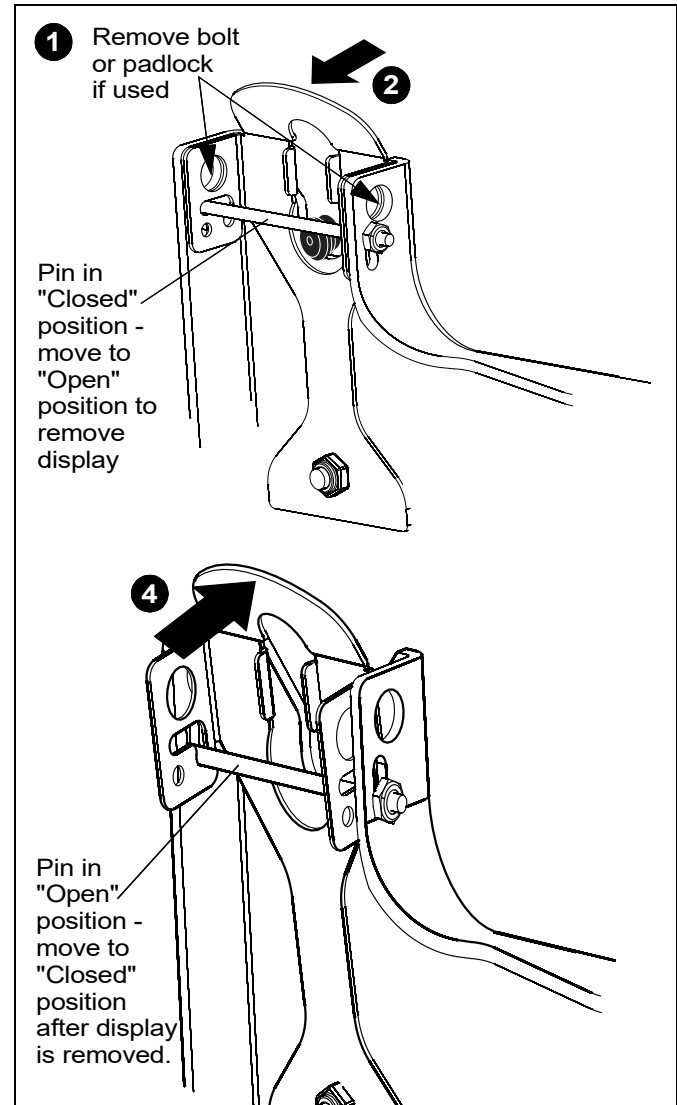

Figure 13
2. Pull back on flag on upper mounting hole and press pin down into "Open" position. (See Figure 13)